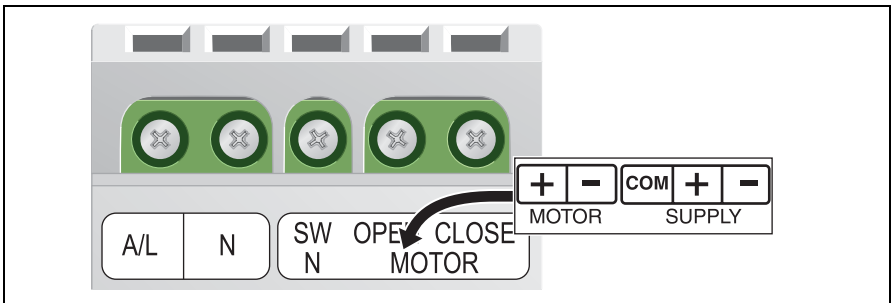

Figure 3 - The alternative label to be attached when a DC motor is used
**NOTE** The terminals of the L5501RBCP are labelled for use with an AC motor. When using a DC motor, attach the provided DC termination label over the factory terminal label. Refer to Figure 3.